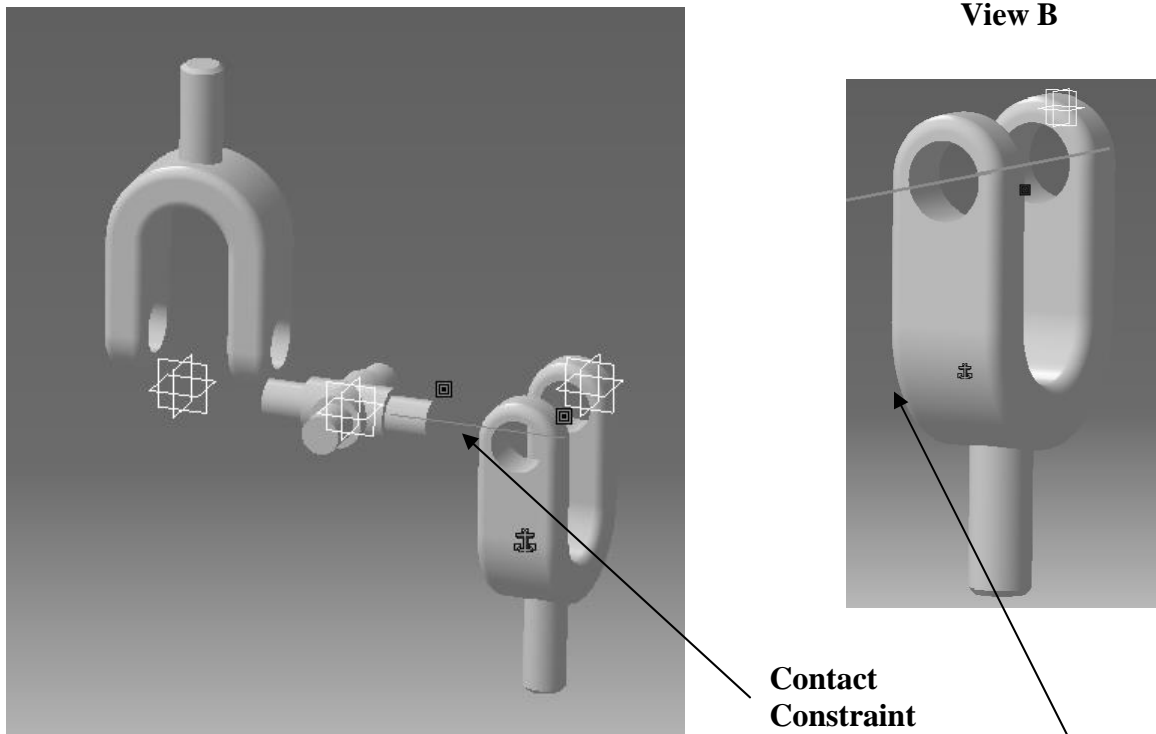

**Figure 4.3**
- 2.1 Select the Fix Component tool  from the right side of the screen and then select the “Bottom U-Joint part. It can be selected from the Specification Tree or by selecting the object on the screen. An Anchor symbol will appear on the part to show that it has been fixed as shown in figure 4.3